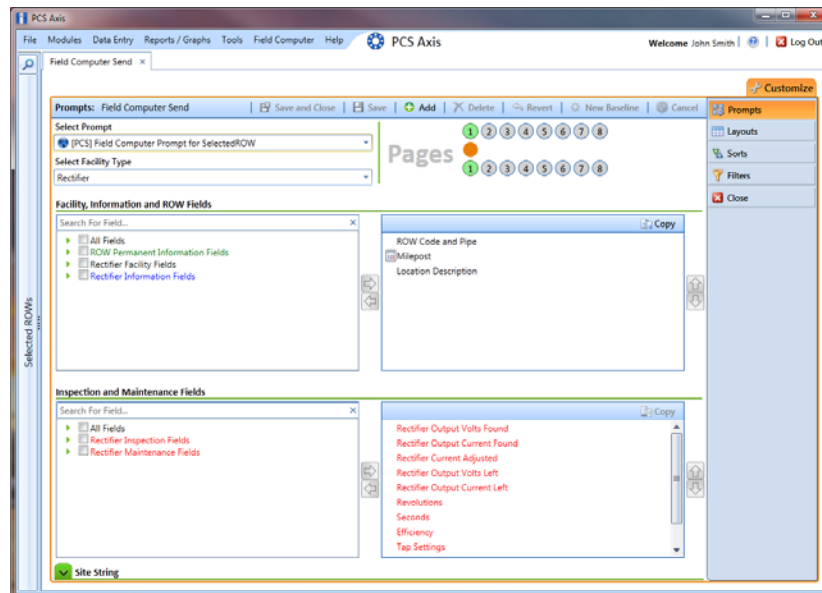

Figure 13-29. Prompts
- 3 Click the **Customize** tab , then the **Prompts** button  to open the *Prompts* page (Figure 13-29).
- 3 Click the **Customize** tab , then the **Prompts** button  to open the *Prompts* page (Figure 13-29, page 590).